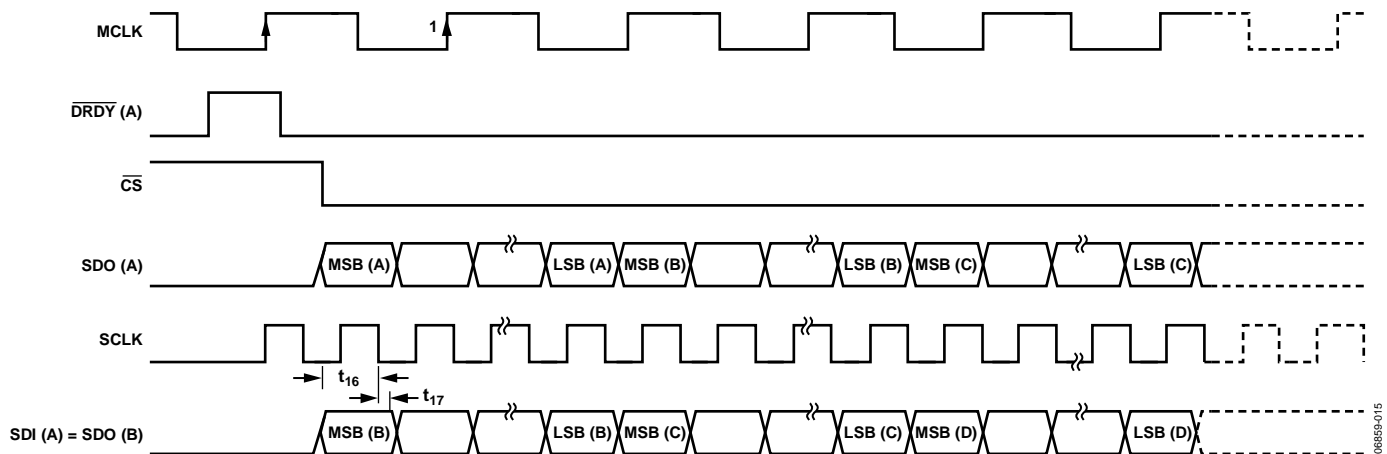

Figure 38. Daisy-Chain SDI Setup and Hold Timing
This is illustrated in the examples shown (Figure 37 and Figure 38), where the conversion results from the devices labeled A, B, C, and D are clocked onto SDO (A) during the time between the falling edge of $\overline{\text{DRDY}}$ (A) and the rising edge of $\overline{\text{DRDY}}$ (A).